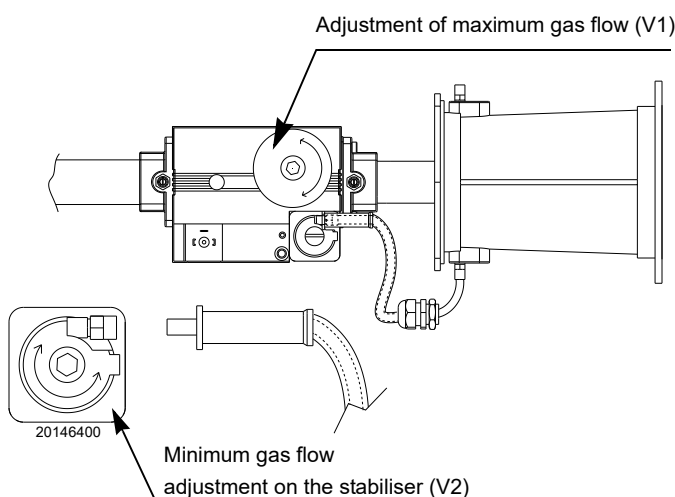

Fig. 31
- to increase the gas delivery and the CO2: turn the V1 screw towards the “+” sign (Fig. 31);
- to reduce the gas delivery and the CO2: turn the V1 screw towards the “-” sign (Fig. 31).
- to increase the gas delivery and the CO2: turn the V2 screw towards the “+” sign (Fig. 31);
- to reduce the gas delivery and the CO2: turn the V2 screw towards the “-” sign (Fig. 31).